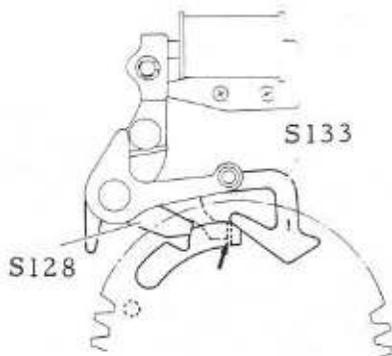

Fig. 1
* Refer to Fig. 1.
When the Wind mech. block is completed its winding, the 2nd curtain gear engages with the 2nd curtain hook lever (S128) with remaining the clearance as pointed by the arrow in Fig. 1.